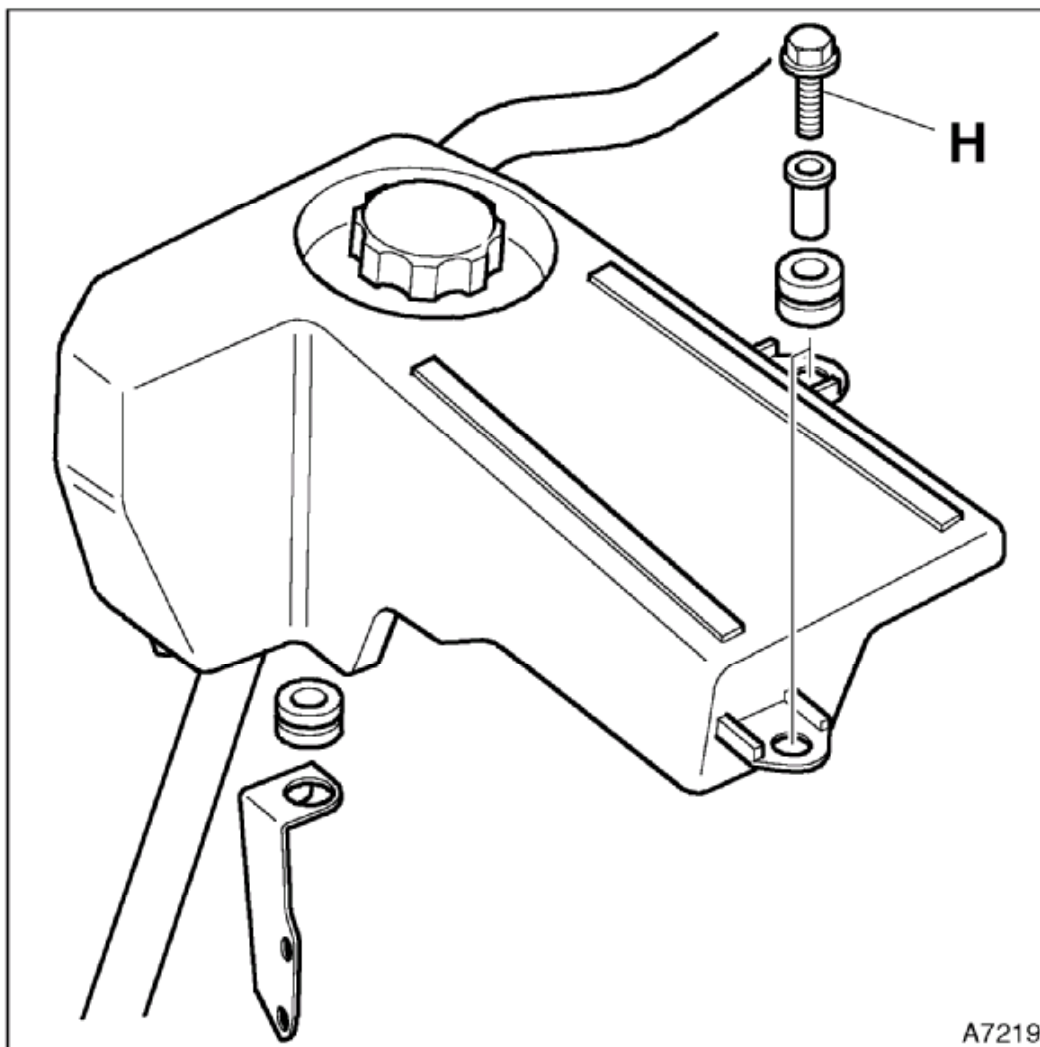

Figure. 5
14. Remove Primary Expansion Tank mounting screws H. Then manoeuvre to one side. See figure 5.